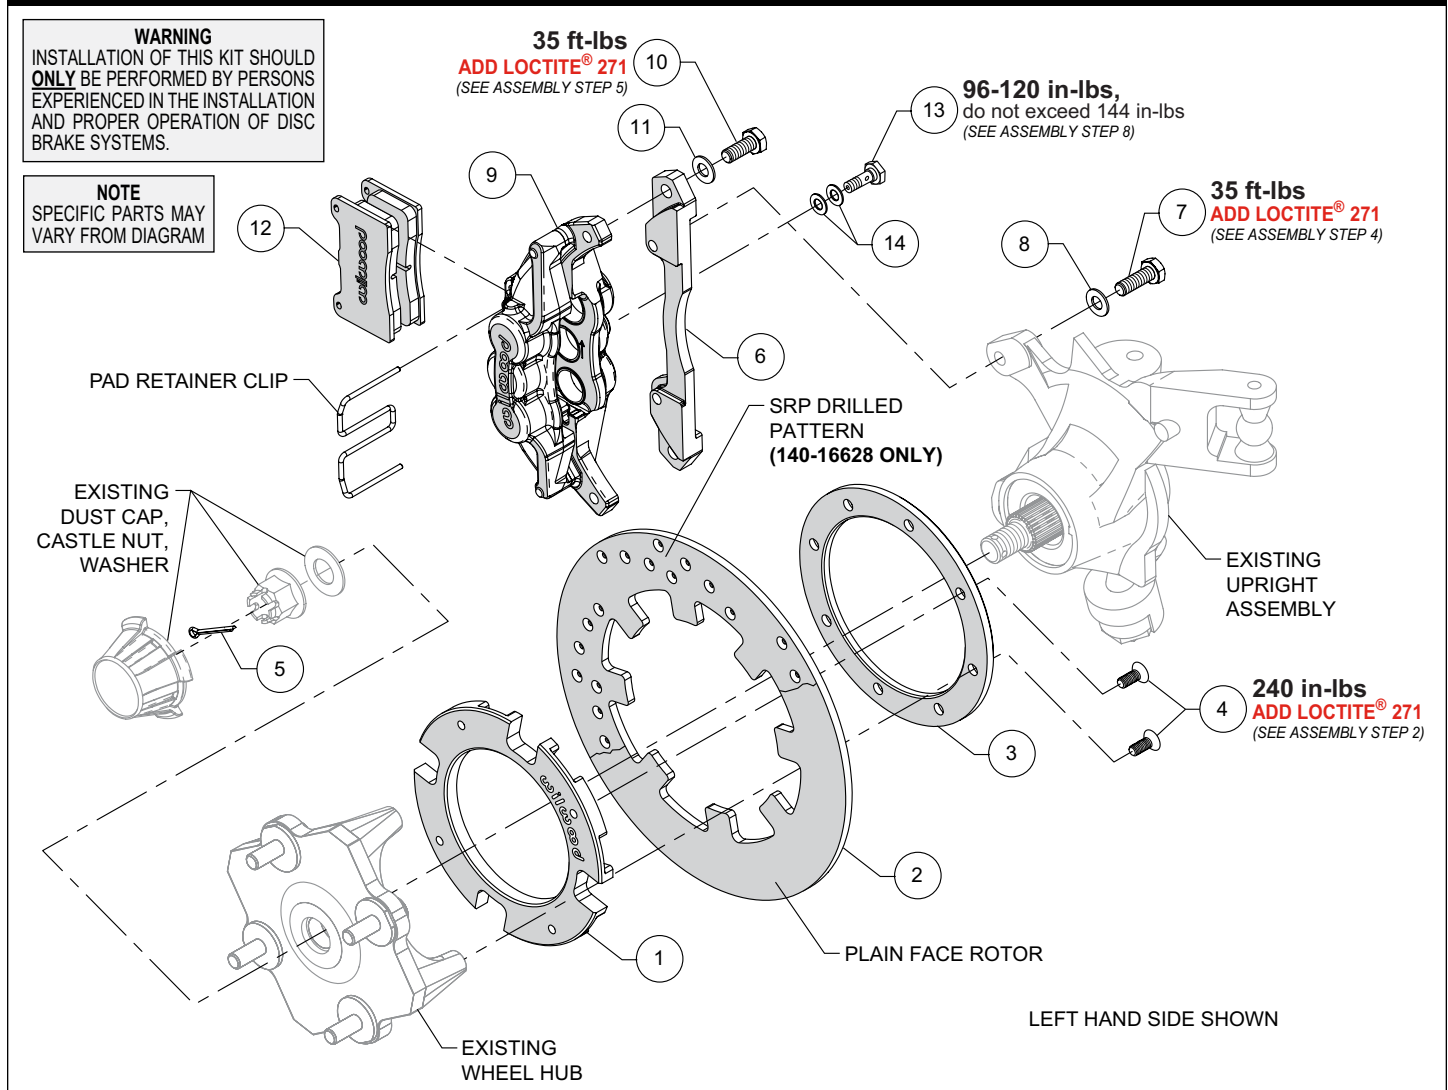

Figure 1. Typical Installation Configuration
NOTE: Numbers in parenthesis refer to the parts list and Figure 1 on the preceding pages.
STEP 1 Place the existing OEM wheel hub face down and position the rotor adapter (1) onto the wheel hub as shown in Figure 1 and Photo 1. **NOTE:** The existing wheel hub must be free of dirt and debris or excessive rotor run out may result.
STEP 2 Position the rotor (2) onto the rotor adapter (1), making sure the rotor lugs fit into the recesses of the rotor adapter, as shown in Photo 2. Place the adapter ring (3) onto the assembly and attach using bolts (4), Photos 3 and 4. Using an alternating sequence, apply red *Loctite*® 271 to the threads, and torque to value shown in Figure 1.
STEP 4 Orient the caliper mounting bracket (6), as shown in Figure 1 and Photo 7. Install using bolts (7) and washers (8). Apply red *Loctite*® 271 to the bolt threads and torque to value shown in Figure 1.
STEP 5 Secure the caliper (9) to the mounting bracket (6) using bolts (10) and washers (11), as shown in Figure 1 and Photo 8. Apply red *Loctite*® 271 to the threads, and torque to value shown in Figure 1.
STEP 6 Remove the pad retainer clip from the caliper (9). Insert the brake pads into the caliper with the friction material facing the rotor, as shown in Photo 9. Reinstall the pad retainer clip, Photo 10.
STEP 8 Attach brake line to caliper. Orient OEM brake line as shown in Photo 11 and connect to caliper using banjo bolt (13) and crush washers (14). Do not use lubricant or thread sealant on banjo bolt (13). Torque to minimum value shown in Figure 1. Check for leakage, increasing torque only to stop leakage without exceeding maximum specification. Replace crush washers and banjo bolt whenever reassembly is required. **Ensure hoses are routed to prevent contact with moving suspension, brake or wheel components.**